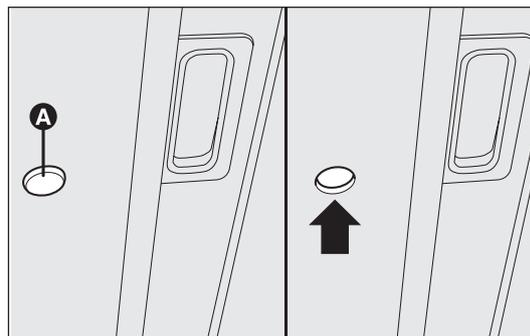

fig. 77
- insert the key into hole A-fig. 77 and turn it: